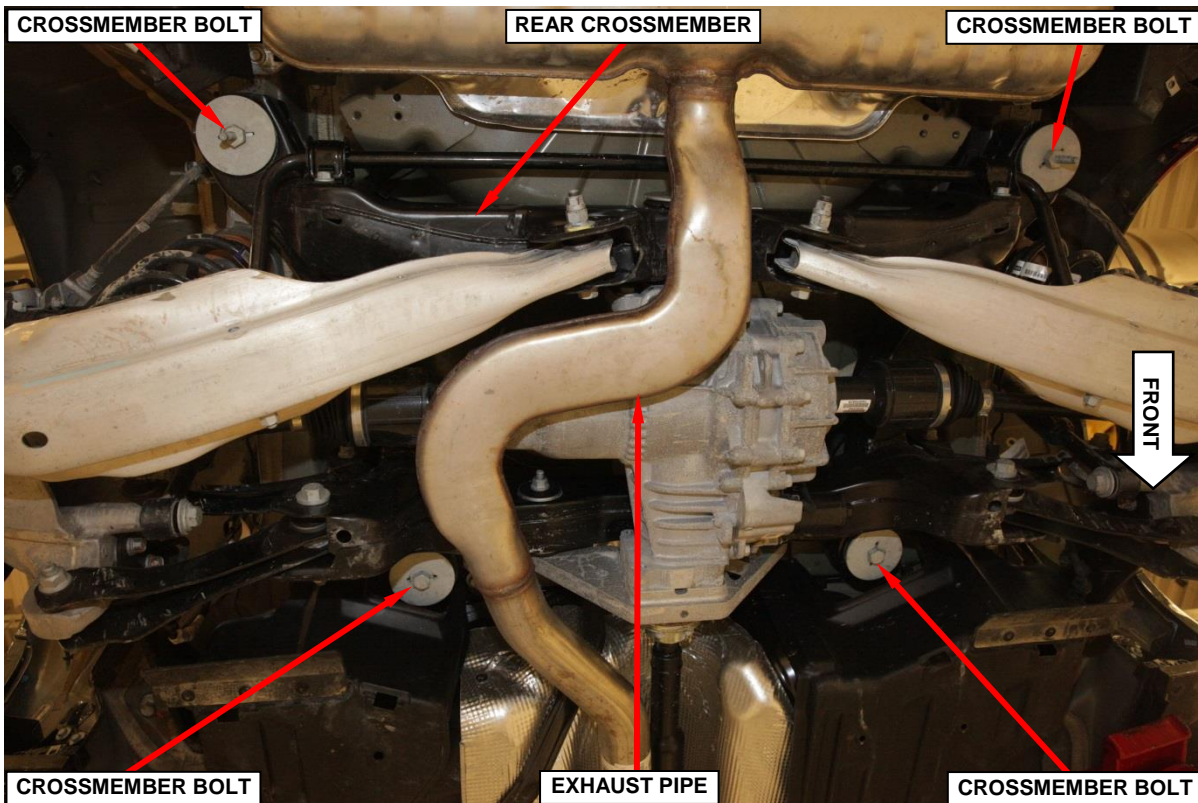

Figure 6 – Rear Suspension Crossmember
8. Rear crossmember to the vehicle body bolts, four bolts total. Tighten the bolts to 111 ft. lbs. (150 N·m) (Figure 6).